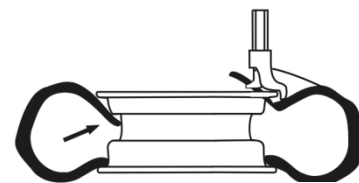

Fig. 23
- Insert the inner tube if there is one and repeat the same operations to mount the upper side of the tire (fig.23).